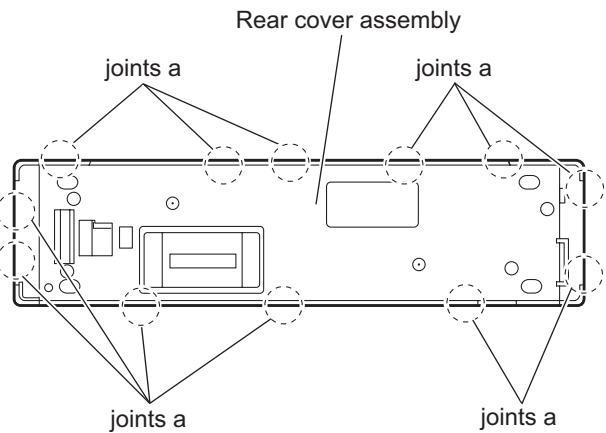

Fig.15
- Release the twelve joints **a** of the front panel assembly and remove the rear cover assembly. (See Fig.15.)